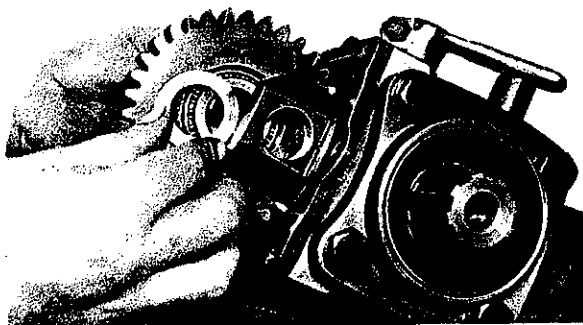

Fig. 65
- 2.7 Use tool .13. to knock ball bearing (3) and output shaft against stop of shaft flange on ball bearing (22). Coat closing cover (1) on OD with sealing compound and then push into bore.
Insert tapered roller bearing (34) into double gear (35). Push double gear with fitting washer (36) into housing (Fig. 65). Select washer (36) in such a manner that the double gear fits free of play but does not bind. Washers are available 2.1, 2.3, 2.5 and 2.7 mm thick. Press-in bolt (37) with bore toward output flange.